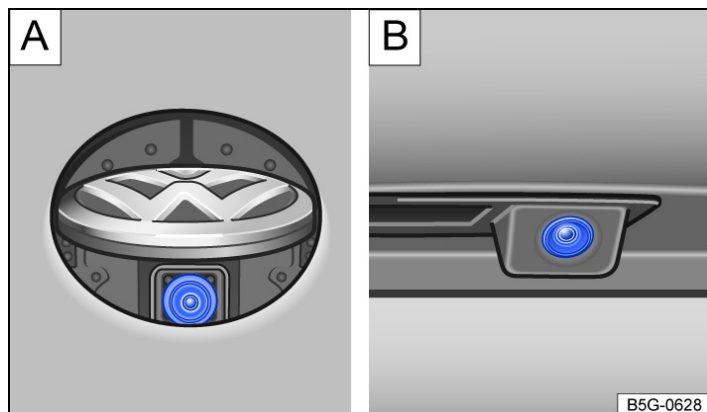

Fig. 1 At the rear of the vehicle: rear view camera system in the Volkswagen badge **A** or on the handle button **B** (schematic diagram).
*On vehicles with a rear view camera in the rear Volkswagen badge→ Fig. 1 **A**:*